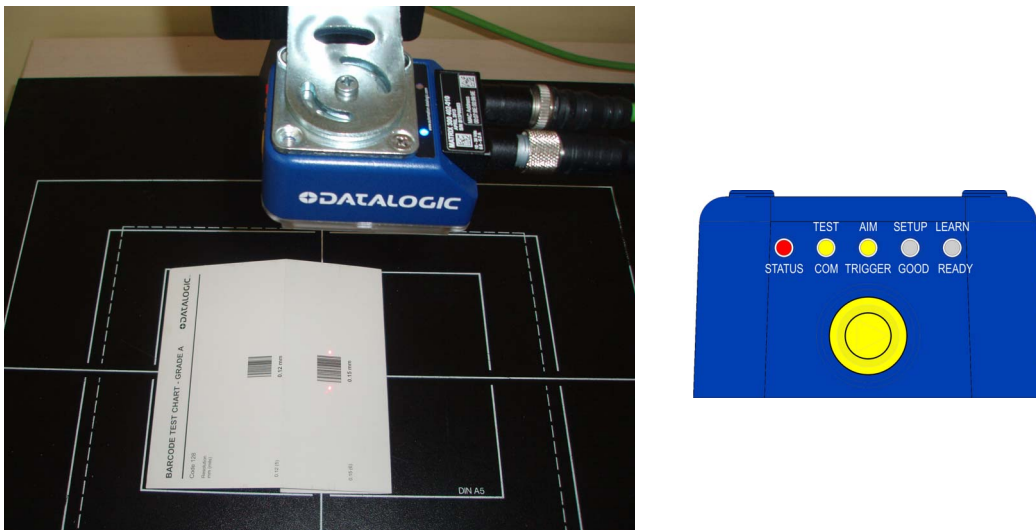

Figure 4 – X-PRESS Interface; Aim/Autofocus Function
4. Release the button to enter the Aim function. The laser pointers turn on, and the Autofocus procedure begins, see Figure 4. The Aim LED will blink until the procedure is completed.